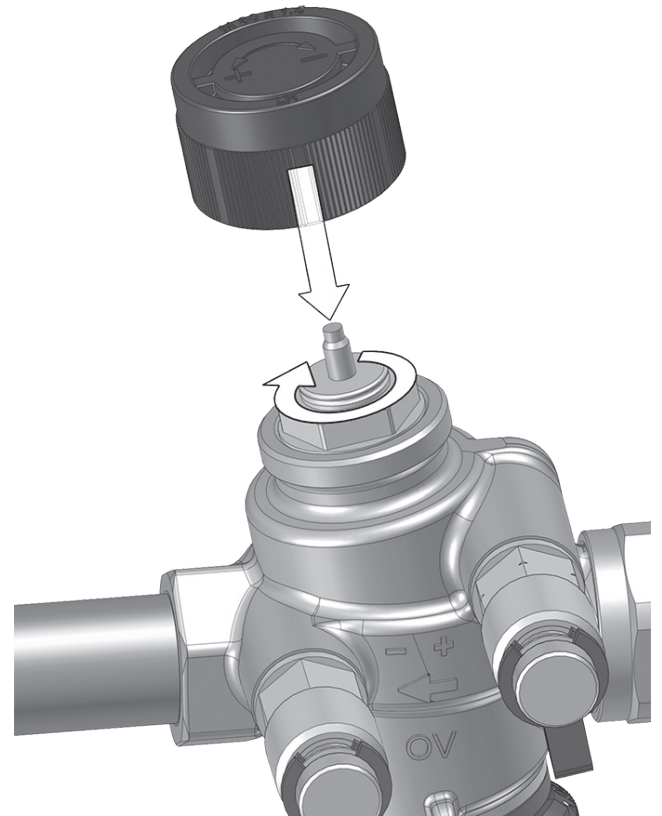

Fig. 8: Shutting off
- 1 Shut off the valve, e.g. with the protection cap (see Fig. 8).
Screw the supplied protection cap onto the M 30 x 1.5 connection thread (see Fig. 8).